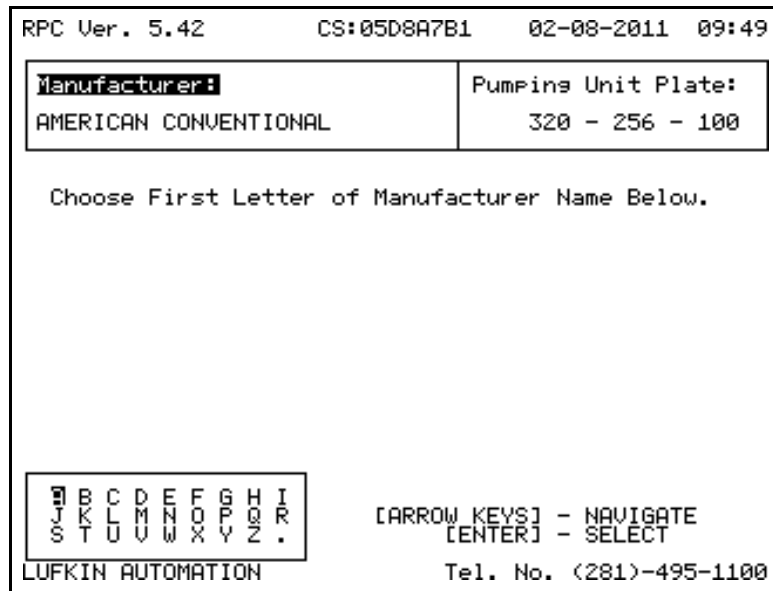

Figure 8-14. First Step of the Manufacturer Selection Process
- b. Select **1. SELECT PUMPING UNIT MANUFACTURER** to start the database selection. A screen similar to Figure 8-14 displays.
The Lufkin Well Manager RPC searches the database for all manufacturer names starting with that letter and then displays a screen similar to Figure 8-15 listing all of the matches found. For example, in Figure 8-14 the letter “L” is highlighted so the database is searched for all manufacturer names beginning with the letter “L,” and then a list of the results of that search is displayed on a screen similar to Figure 8-15.